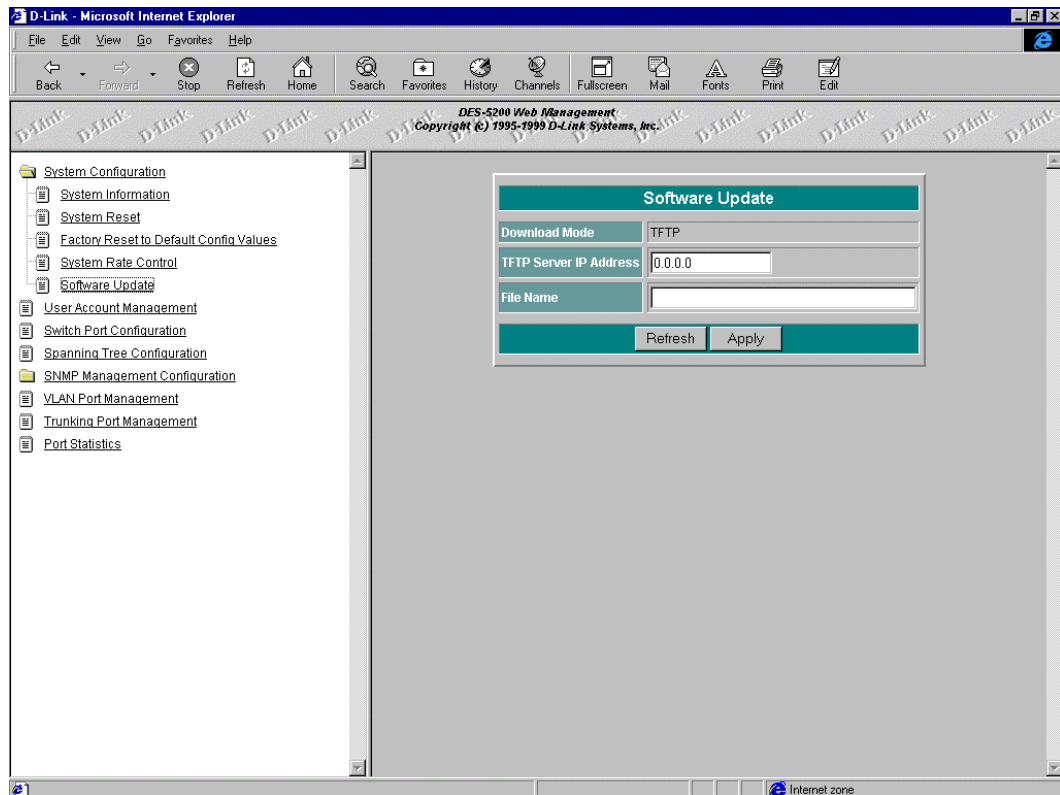

Figure 58: TFTP Transfer
1. Enter the Internet Protocol (IP) address of the TFTP server see Figure 58.